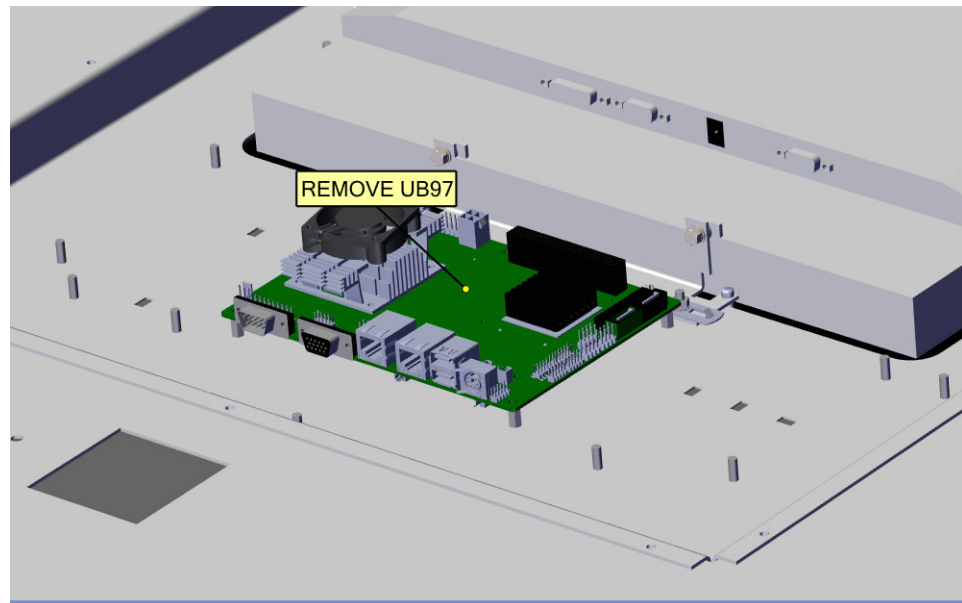

Figure 4: SBC Removal
- (i) Remove the SBC and discard. See Figure 4.